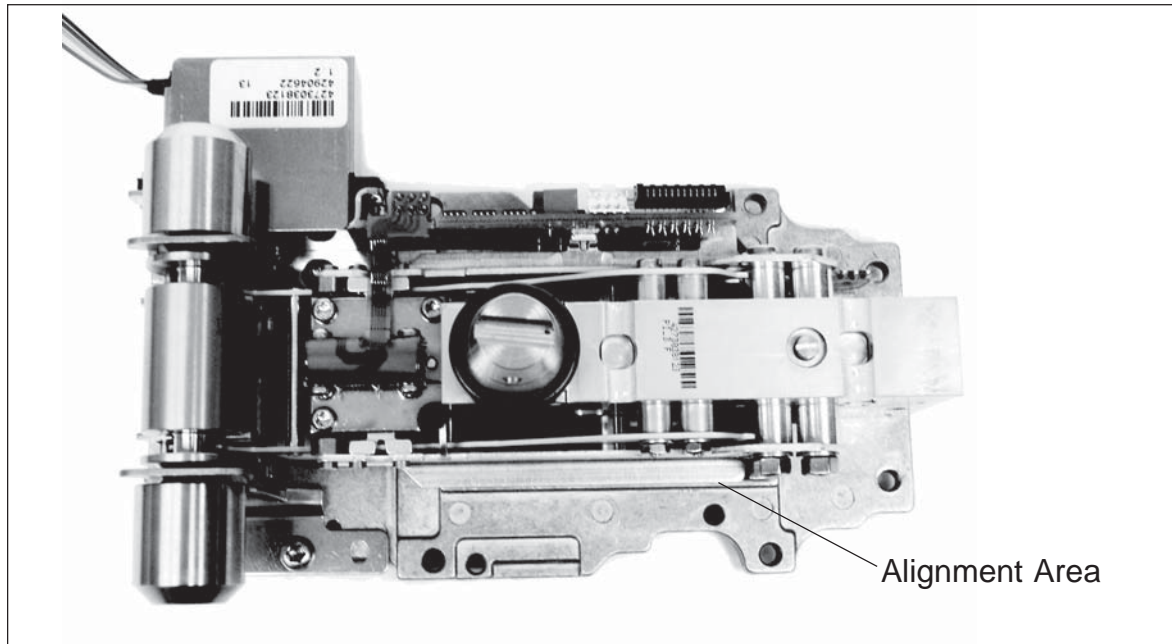

Figure 3-38. Load Cell Alignment to Base Plate.
3. Looking down at the top of the load Cell, align it with the Base Plate as shown in Figure 3-38. Now carefully tighten the 2 mounting screws and recheck alignment.